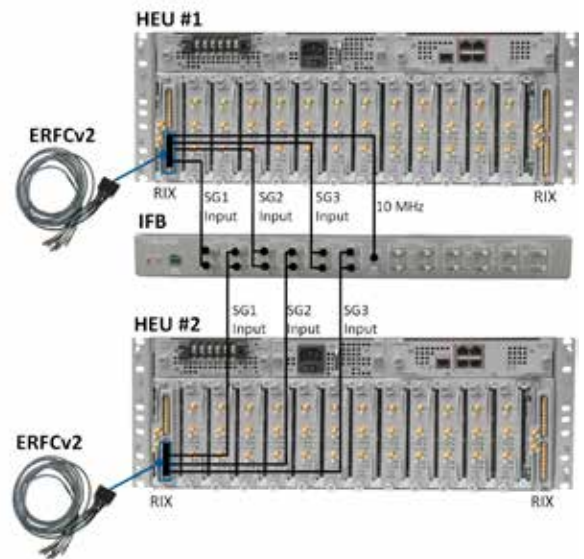

Figure 2. HEU-to-IFB Connections
Step 1: Refer to Figure 2 and connect the 9-pin connector side of the ERFCv2-OCH cable to an available HEU/IHU RIX port and secure the connector in place.